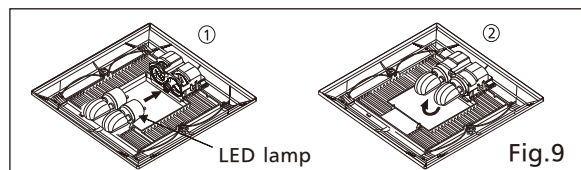

Fig.9
- ① Keep on pressing the clasps when removing the ornamental cover.
- ② Insert the sensor cover (attachment for FV-MSVK1) into slot.
11. Install the LED lamps. (Fig.9)
4. Install the LED lamps (CX-GU24-H-B, 7W) as shown in step ① and step ② of Fig.9 (Page 9).